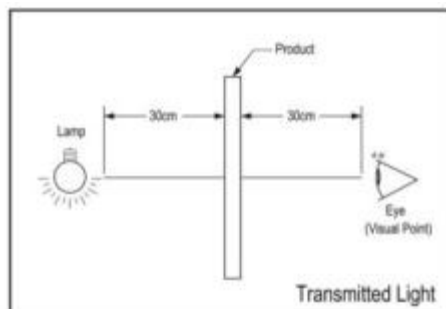
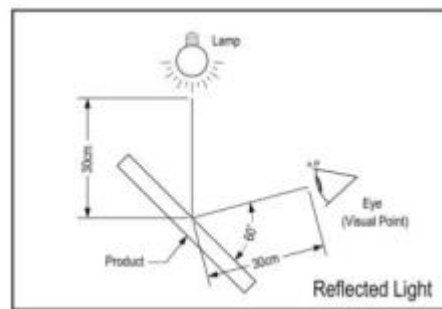

Figure 11-1
Figure 11-2
(1) 18W(1000±500Lux) fluorescent luminant lamp is used for appearance inspection. Detail settings are shown in (Fig 11-1) and (Fig 11-2).
[(1) 檢測使用之燈光為 18W(1000±500Lux)白熾燈光，詳細的擺設方式，請參考圖(Fig11-1), (Fig11-2)]
(2) Minor impurities outside active area are acceptable unless their existence affect electrical functions.